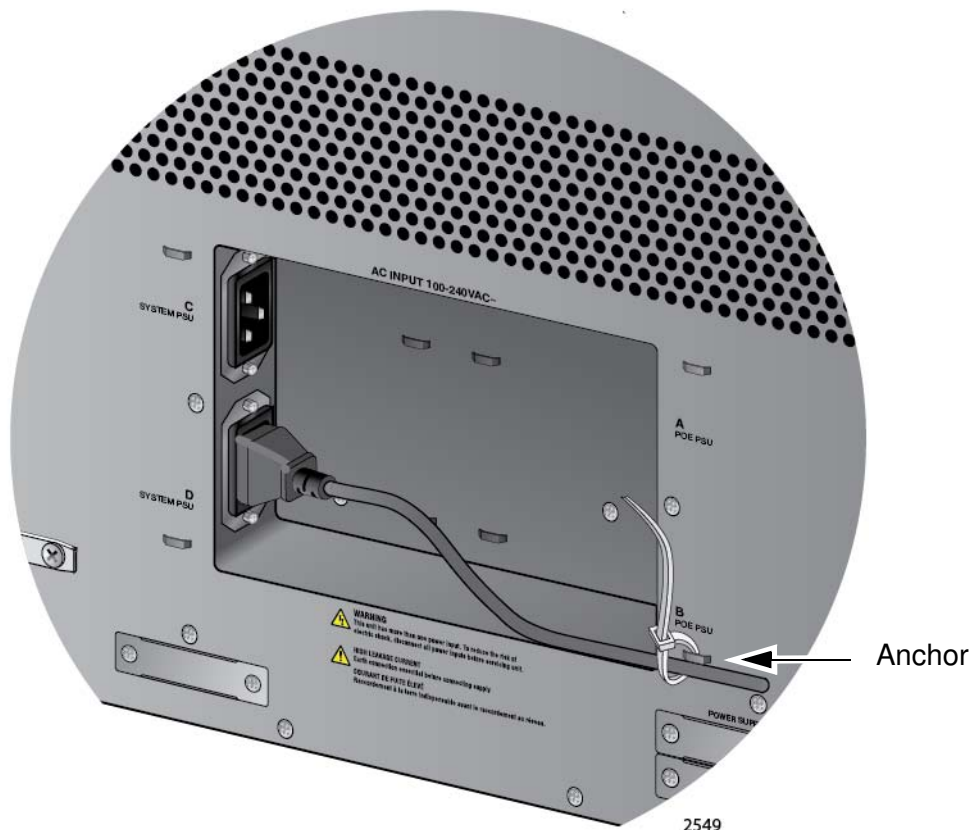

Figure 106. Securing the Power Cord for the AT-SBxPWRSYS1 or AT-SBxPWRSYS2 AC System Power Supply to an Anchor
3. Use the twist tie included with the power supply to secure the cord to an anchor on the chassis to protect it from being accidentally pulled out, as shown in Figure 106 on page 171.